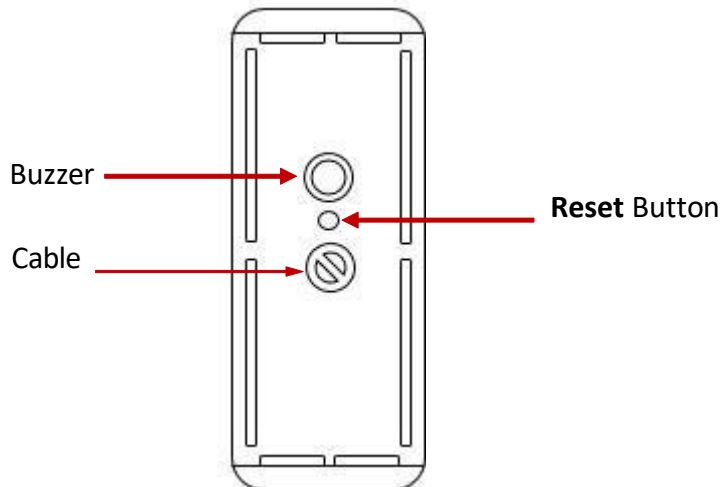

Figure 1: Reset button is located on the back of the reader between the buzzer and cable.
1. To locate the reset button on the reader, dismount from the installation points. The reset button is located on the back of the reader, as depicted in Figure 1.
1. To locate the reset button on the reader, dismount from the installation points. The reset button is located on the back of the reader, as depicted in Figure 1 on Page 9.